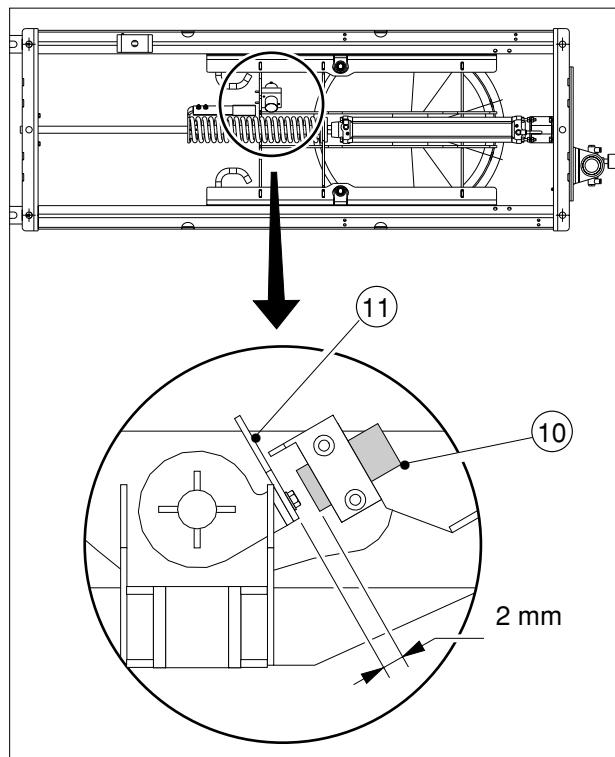

fig.11.1 Track tensioner proximity switch
- Connect up proximity switch **10** so that the drive motor(s) of the overhead conveyor is (are) switched off when the proximity switch is deactivated. See figure 11.1
- Set proximity switch **10** so that the distance between the proximity switch and indication plate **11** is 2 mm. See figure 11.1.